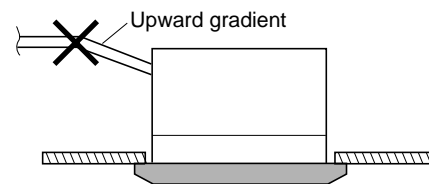

Fig. 3-10
- Do not install the pipe with an upward gradient from the connection port. It will cause the drain water to flow backwards and leak when the unit is stopped. (Fig. 3-10)